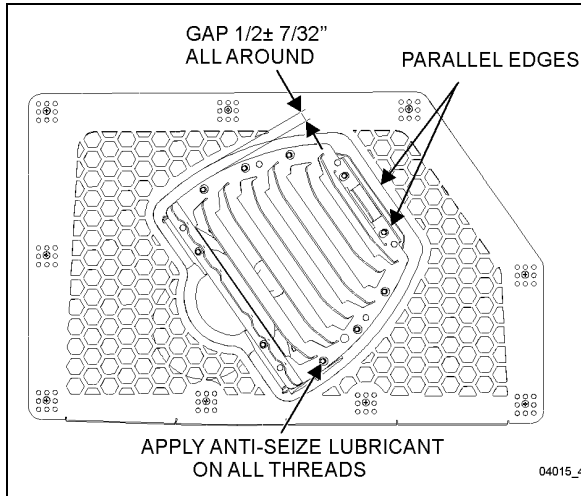

FIGURE 8: DIFFUSER POSITION ADJUSTMENT
2. For proper angular position, make sure that the two edges shown on Figure 8 are parallel with each other.